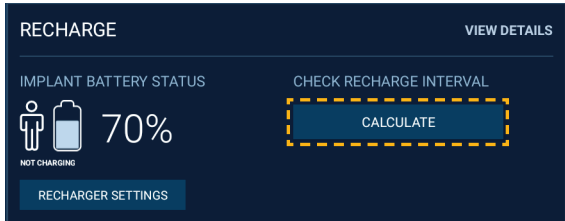

Figure 40. Recharge interval CALCULATE button
- 1. Tap **CALCULATE** found in the Recharge panel on the dashboard screen (Figure 40) to open the Recharge Interval screen.